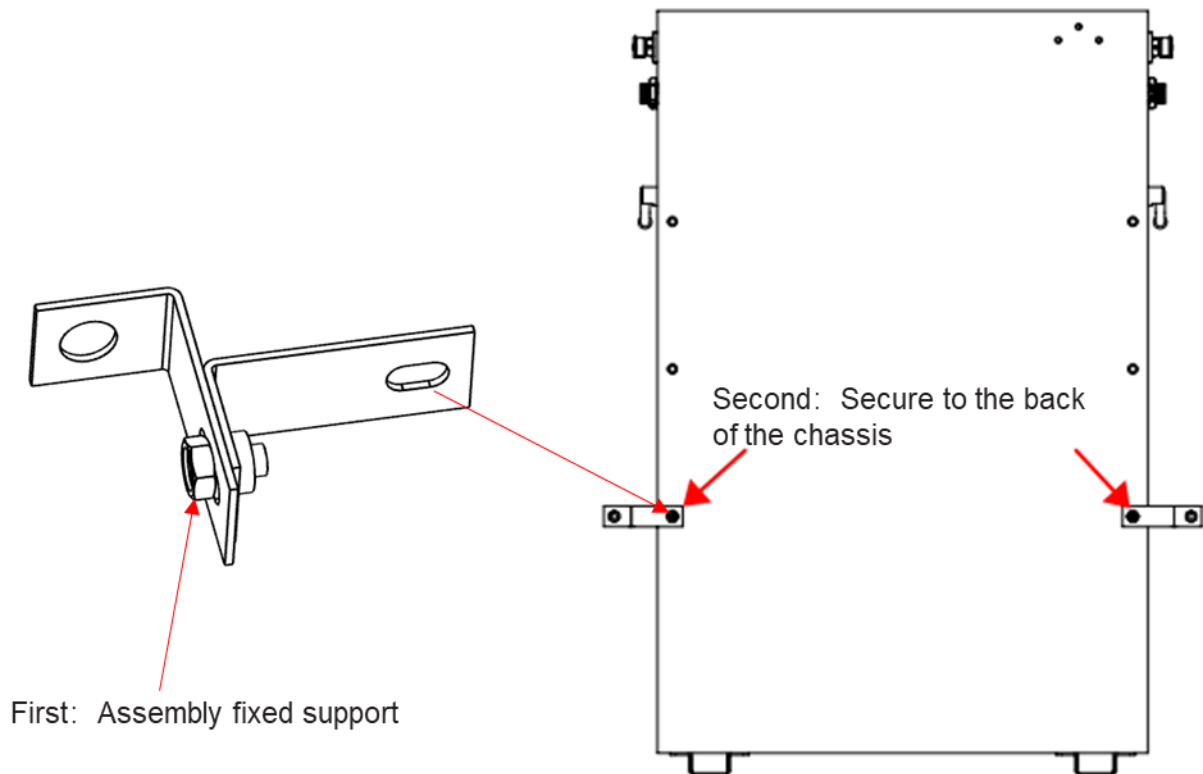

Figure 5-4
a) Use the 4 screws of M6\*10 to fix the left and right retaining ears to the back of the battery, as shown in Figure 5-4.